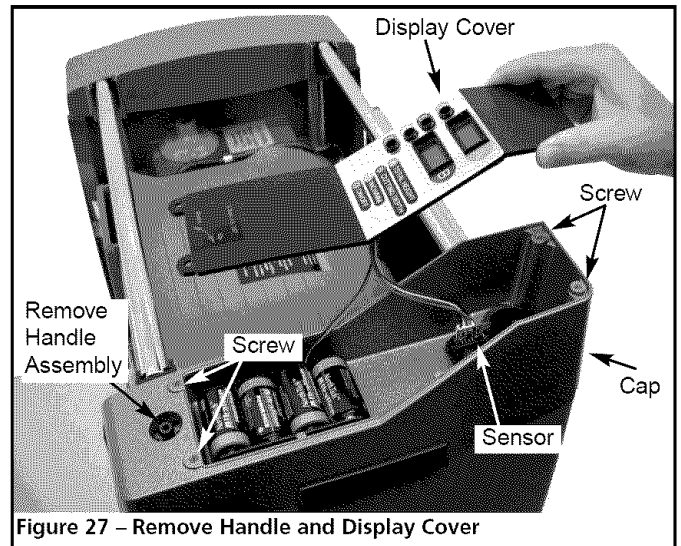

Figure 27 – Remove Handle and Display Cover
- Remove the plug, bolt and handle assembly. Remove the four (4) screws from the display cover. Loosen the bolt and remove sensor from its bracket. Place display cover back on top of the cap. See Figure 27.